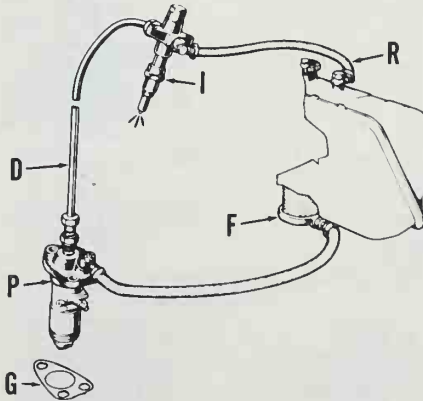
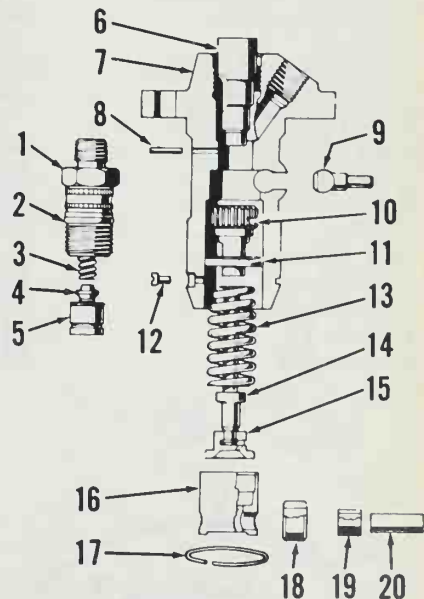

Fig. L5-2—Diagram of fuel system.
Fig. L5-3—View of fuel injection pump.
FUEL FILTER. The fuel filter is located inside the fuel tank as shown in Fig. L5-2. Renew fuel filter after every 300 hours of operation or sooner if required.
Injection pump timing is adjusted using shim gaskets (G—Fig. L5-2) between pump body and mounting surface on crankcase. To check injection pump timing, unscrew high pressure delivery line (D) fitting from delivery valve holder (1—Fig. L5-3). Unscrew delivery valve holder and remove spring (3) and
To advance injection timing, remove shim gaskets (G—Fig. L5-2); install shim gaskets to retard injection timing. Reinstall removed pump components and tighten delivery valve holder to 34.3-39.2 N·m. Tighten injection pump retaining screws to 29.4 N·m.